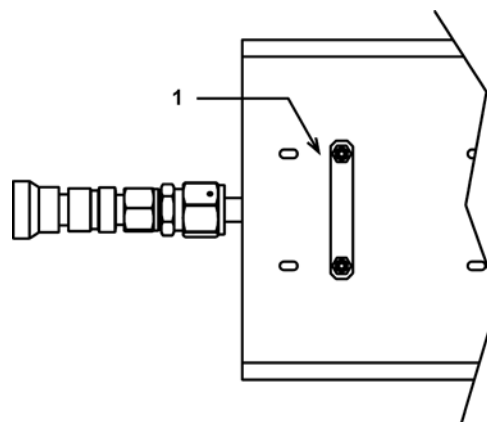

Figure 2. molstic-S Nut Plate
- ❺ Place the flat side of the 60 mm nut plate under the molstic-S platform (See Figure 2). Align it with the holes in the platform and the regulator bracket. Hold it in place.
- ❻ Thread the two M4 socket head cap screws and M4 flat washers through the regulator bracket and tighten them securely into the nut plate.